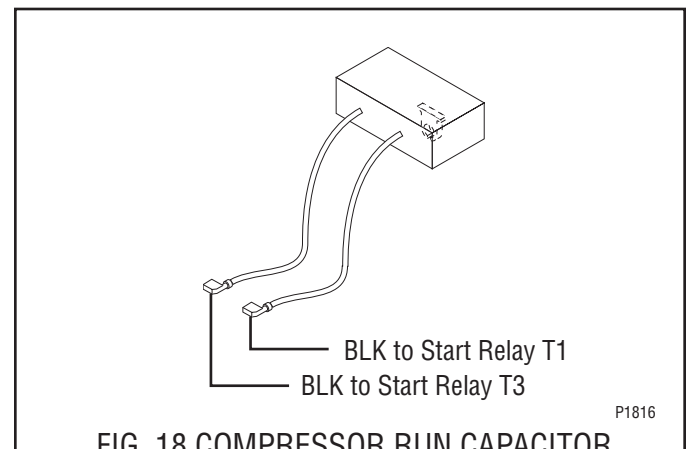

FIG. 18 COMPRESSOR RUN CAPACITOR
1. Remove terminal cover retainer (5) and terminal cover (4).
6. Refer to Fig. 18 and reconnect the wires.